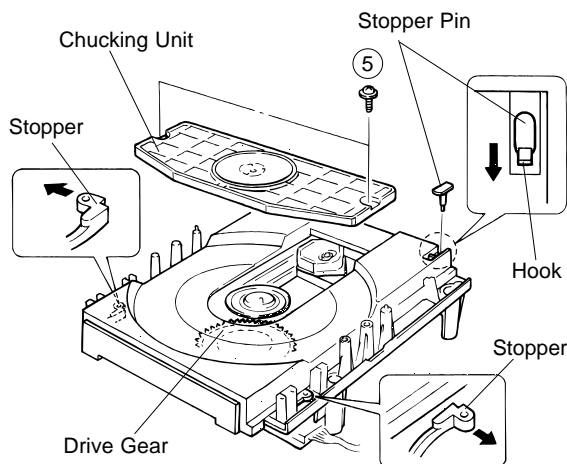

Fig. 3
- Remove 2 screws (⑤) and then remove the Chucking Unit in Fig. 3.
- Remove 1 hook and then remove the Stopper Pin in Fig. 3.
- Rotate the Drive Gear and then open the Tray Unit in Fig. 3.
- Detach the Stoppers on both sides and then pull out the Tray in Fig. 3.